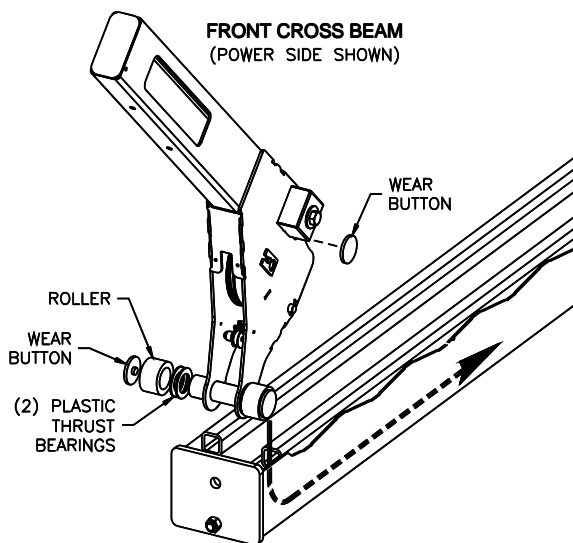

Fig 10 – Front Cross Beam Installation
- 21) Position the two front columns near the front corners of the lift and insert the front cross beams as shown in **Fig 10**. Notice that the front columns are identical, but the cross beams are not.